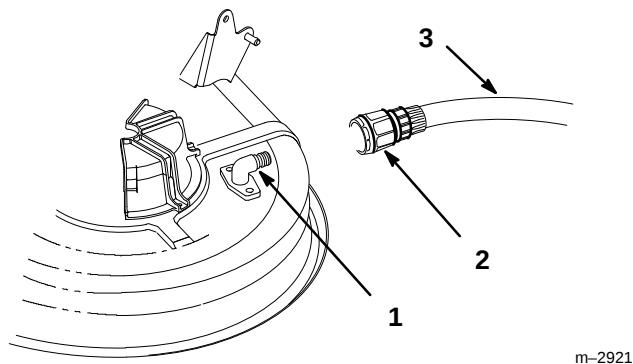

Figure 54
2. Attach coupling (not supplied) to mower washout fitting and turn water on high (Fig. 54).